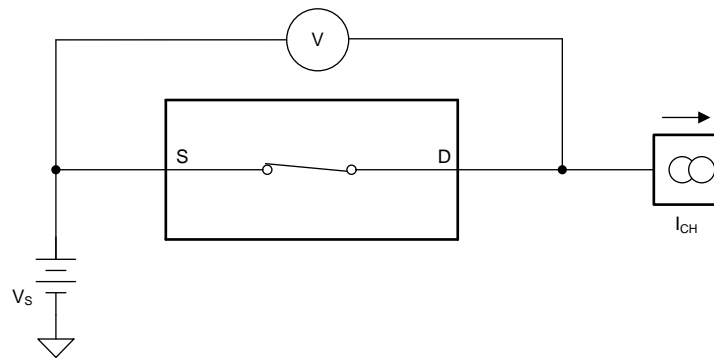

图 17. On-Resistance Measurement Setup
The on-resistance of the TMUX6119 is the ohmic resistance across the source (SA or SB) and drain (D) pins of the device. The on-resistance varies with input voltage and supply voltage. The symbol  $R_{\text{ON}}$  is used to denote on-resistance. The measurement setup used to measure  $R_{\text{ON}}$  is shown in 图 17. Voltage ( $V$ ) and current ( $I_{\text{CH}}$ ) are measured using this setup, and  $R_{\text{ON}}$  is computed as shown in 公式 1: